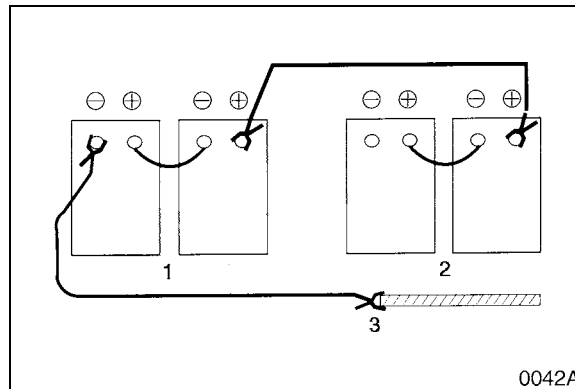

Figure 16
1. Connect positive jumper cable from auxiliary batteries to depleted batteries (Figure 16).